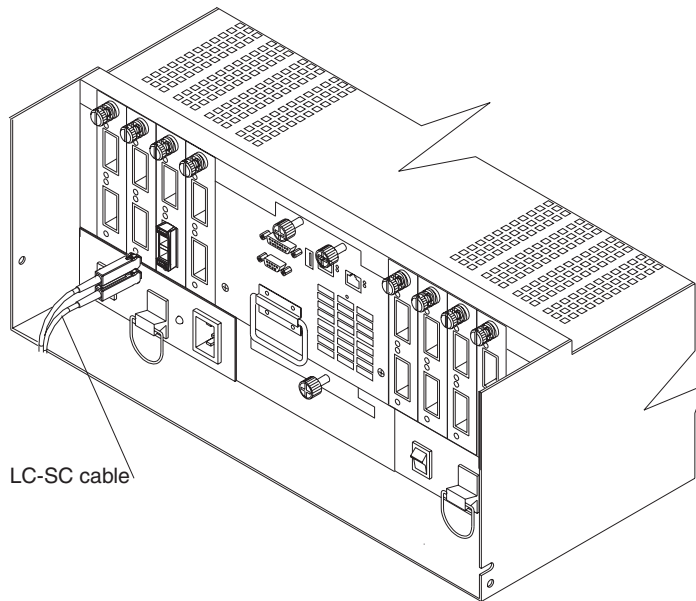

Figure 32. Connecting the LC-SC cable adapter to a GBIC in a FASiT500
2. Connect the SC end of an LC-SC cable adapter to the GBIC, as shown in Figure 32.